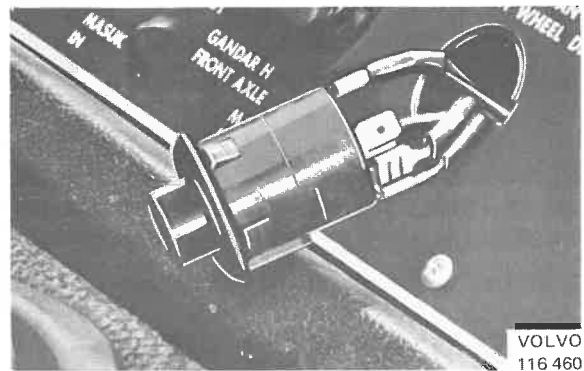

Fig. 36-26. Push-push switch
1. Lift out the switch from the panel, see Fig. 36-26.